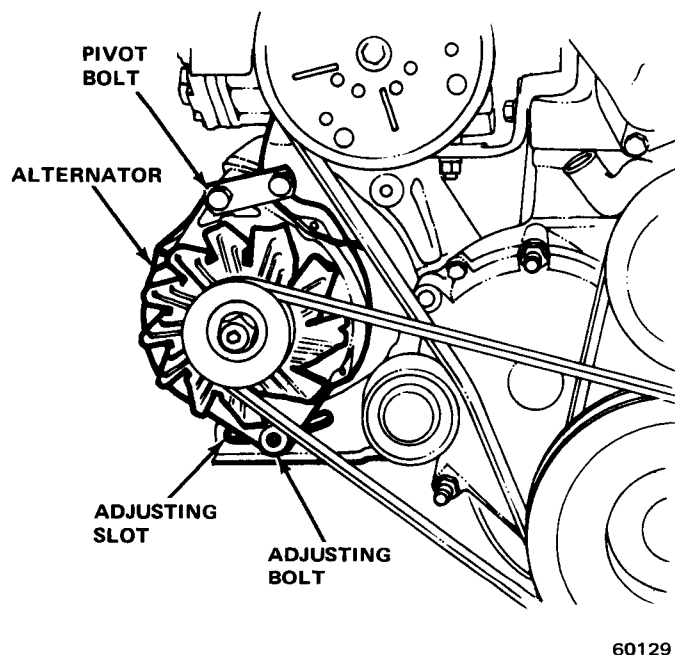

Fig. 2-9 Alternator Adjustment—Six-Cylinder
(1) Loosen alternator pivot mount bolt and alternator adjusting bolt.
(2) Adjust belt using pry bar on six-cylinder engines and 1-inch, open-end wrench on V-8 engines. Snug adjusting bolt (fig. 2-9 and 2-10).